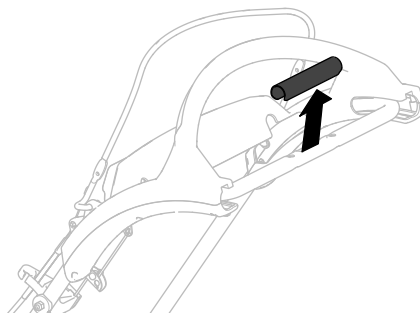

Figure 1
3. Remove the handle cover (Figure 1).